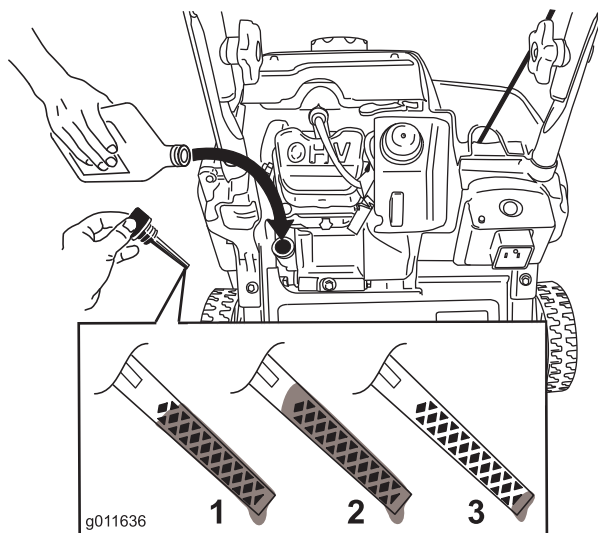

Figure 8
2. Clean around the oil fill cap (Figure 8).
Note: To determine the proper oil level on the dipstick, refer to Figure 8.
Note: Fill the engine crankcase with oil until the dipstick indicates that the engine oil level is correct as shown in Figure 8. If you overfill the engine with oil, remove the excess oil as directed in Changing the Engine Oil.